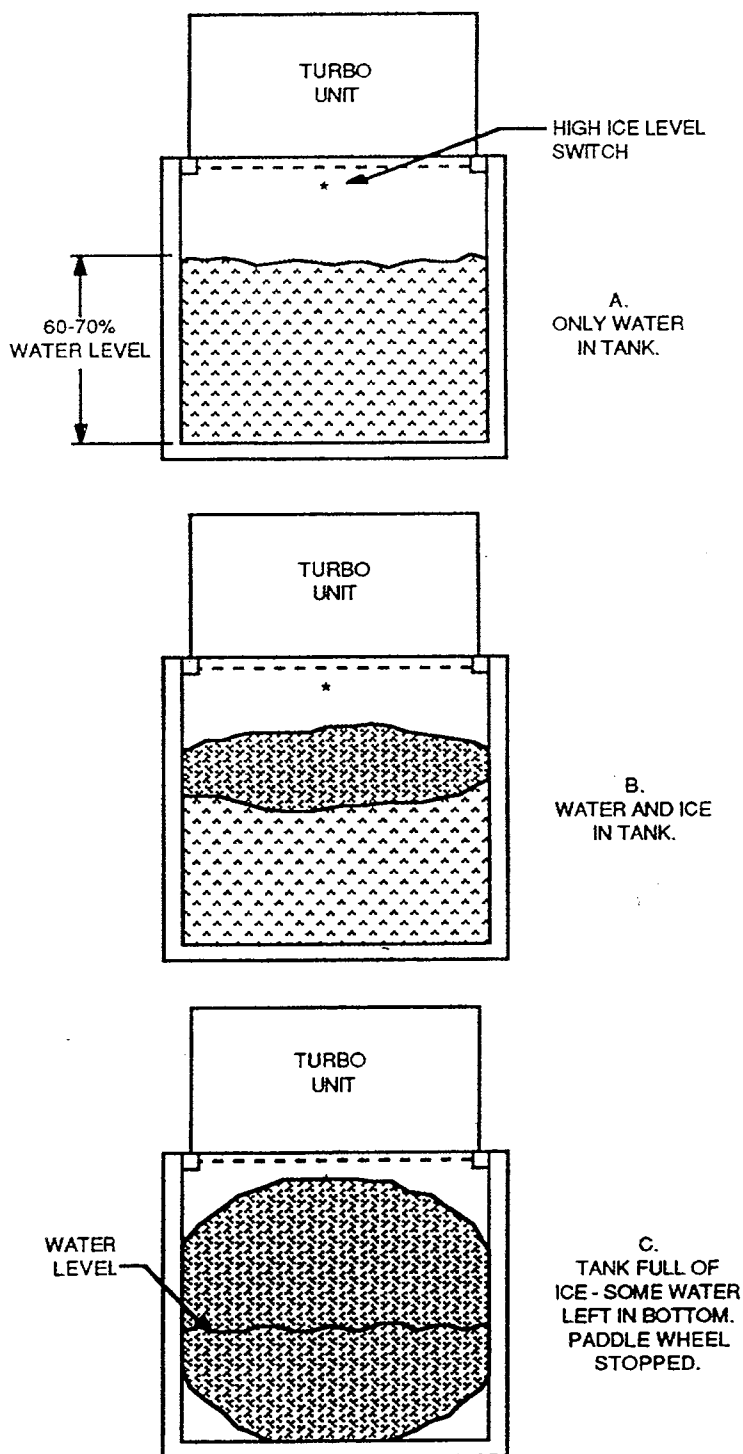

Figure 4-8 Sequence of Operation
Described below is a typical operating sequence in which the storage tank contains no ice and the water temperature is above the setpoint of the WTT thermostat as shown in Figure 4-8 (A) (i.e. no ice will be formed). In this mode the ice generator/chiller will operate as a chiller. The water
temperature drops until the WTT thermostat trips to initialize the icemaking mode. Since ice is now being formed on the evaporator plates, the plates must be periodically harvested to remove the ice which drops into the storage tank (Figure 4-8 (B)). When the tank is full of ice, the operation of the ice generator/chiller is terminated by the high ice level switch (HLS) as shown in Figure 4-8 (C).